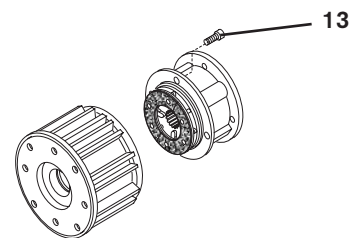

FIGURE 10
- Remove the four Socket Head Cap Screws (Item 13) and separate the two halves of the FMCBE (See Figure 10).